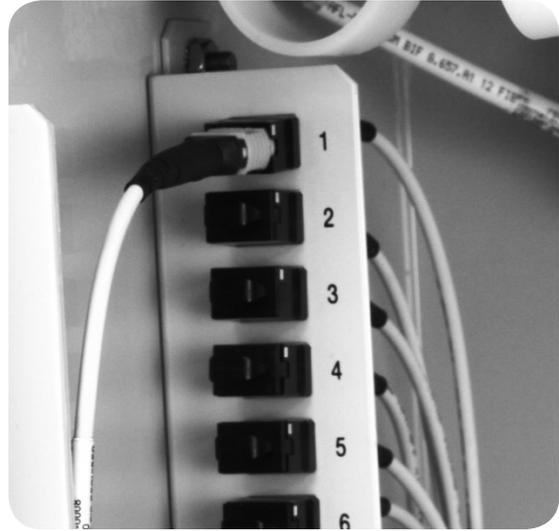

Figure 11
8. Use local accepted practices to clean the connector end face and plug the connector into the appropriate port. (Figure 11)
16. Use local accepted practices to clean the connector end face and plug the connector into the appropriate port. **(Figure 11)**